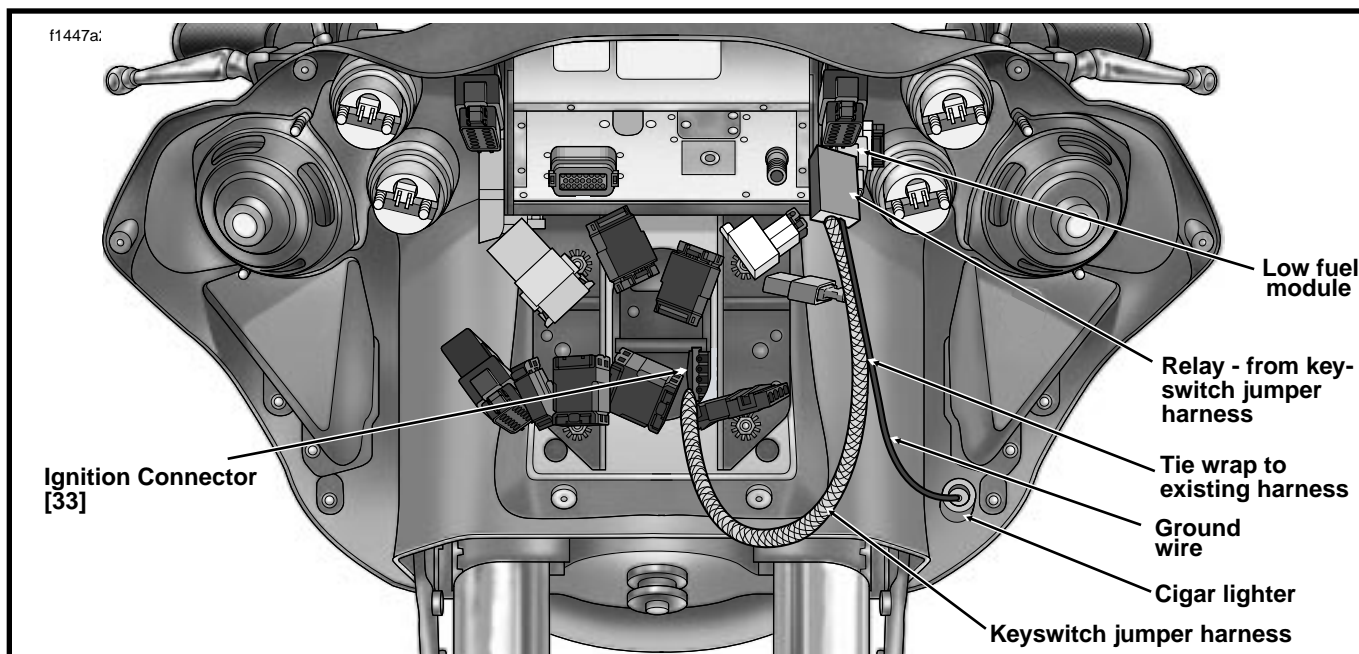

Figure 1. FLTR/I - Existing harness removed for clarity
16. Remove "forward" screw retaining low fuel module and swing the module down, pivoting on the remaining screw. Using the screw removed from the low fuel module attach the relay at the vacant hole. Secure the keyswitch jumper harness and ground wire to existing harness with tie wraps. See Figure 1.
32. Remove "forward" screw retaining low fuel module and swing the module down, pivoting on the remaining screw. Using the screw removed from the low fuel module attach the relay at the vacant hole. Secure the keyswitch jumper harness and ground wire to existing harness with tie wraps. See Figure 1.